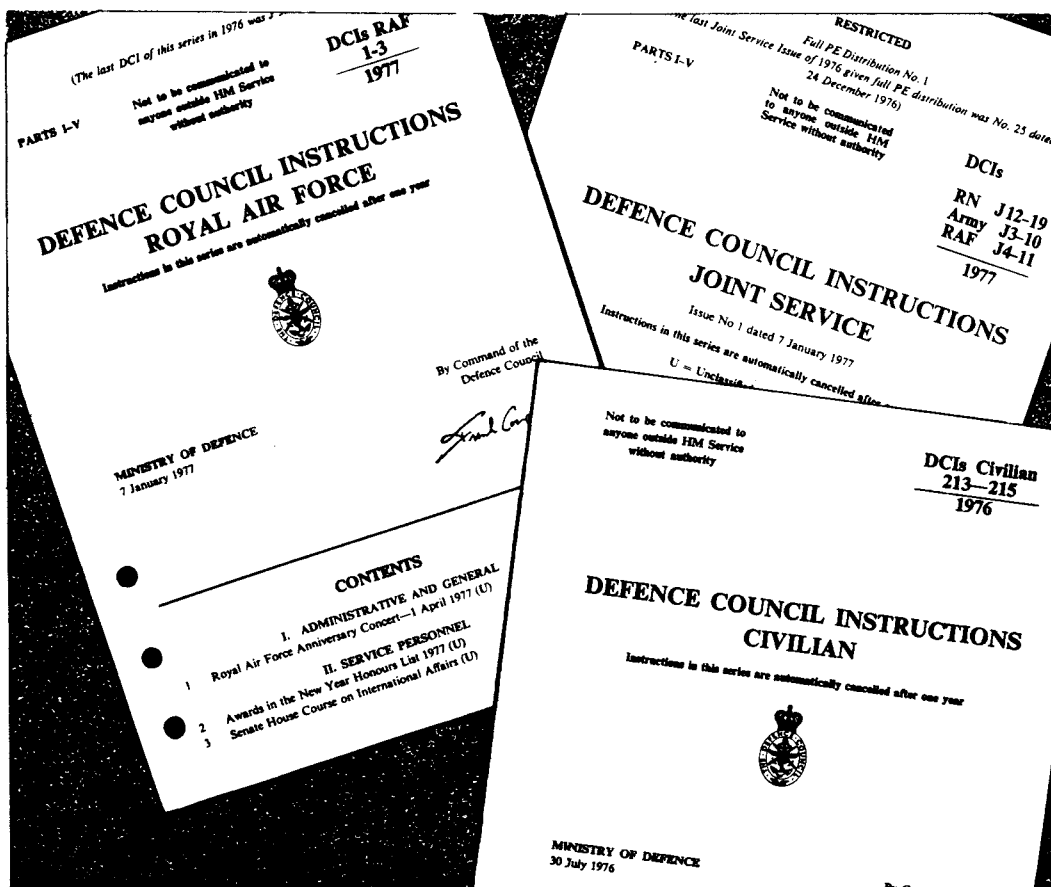

Fig 24.6 Defence Council Instructions
28. For the RAF, there is a single series of DCIs (referred to as RAF DCIs), with similar arrangements for the Army and the RN. Those DCIs that are agreed on an inter-Service basis will be indicated by a 'J' (for Joint Service) before the serial number (*see* Fig 24.6). There is no separate series of numbers of 'J' type DCIs; the serial number given is the next number in sequence in each *single Service* series.